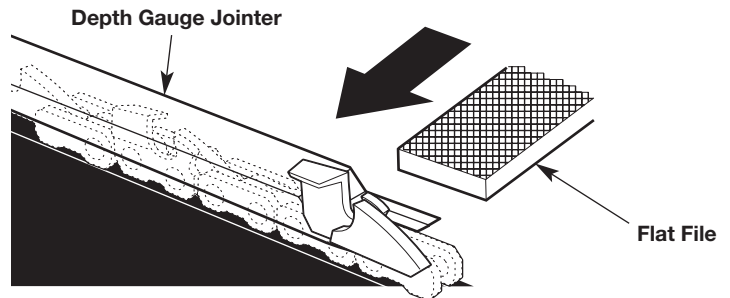

Fig. 39
- Use a depth gauge tool (not included) to measure the depth gauge clearance (Fig. 39) of each cutter. The depth gauge clearance must be maintained at 1/32 inch (0.6 mm). The depth gauge clearance determines the depth at which the cutter enters the wood during operation and the size of the wood chips produced. Too much clearance increases the chance of kickback. Too little clearance decreases the size of the wood chips, thus decreasing the ability to cut.
- Use a 0.025 inch (0.635 mm) depth gauge jointer and a flat file (tools not included) to lower the depth gauge to the correct clearance (Fig. 39).